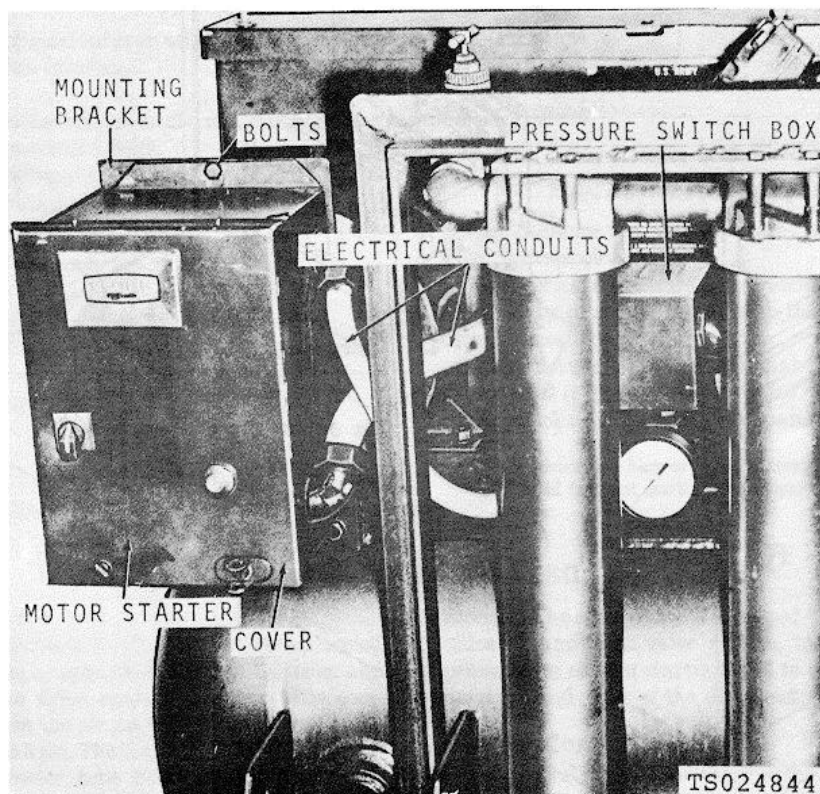

Figure 6-2. Motor starter, removal and installation.
(1) Stop compressor, turn off power, and lock it out. Refer to figure 6-2 and open cover of motor starter.
(1) Release pressure from the air receiver.
(2) Remove electrical conduit from pressure switch box (fig. 6-2), then disconnect and tag the electrical leads from pressure switch.
(3) Unscrew pressure switch box from the air receiver.
(1) Install pressure switch box on the air receiver.
(2) Install electrical conduit to pressure switch box (fig. 6-2).